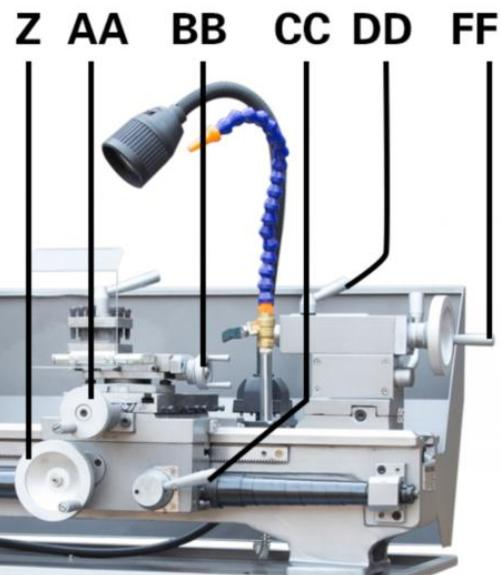

Figure 10-6: Machine controls
Move the half-nut lever (CC, Fig 10-6) down, to engage the automatic longitudinal feed. Move it up to disengage
Apron travel (Z, Fig 10-6), cross travel (AA) and top slide travel (BB) can be operated for longitudinal and cross feeding.
Engage the halve nut (CC, Fig 10-6).